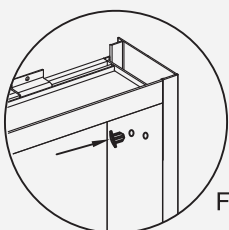

Fig 18
3. Fill the remaining holes with hole plugs ③ (Fig 18). Fill the rest of the shelf clip holes with decorative covers ⑬ (Fig 19).